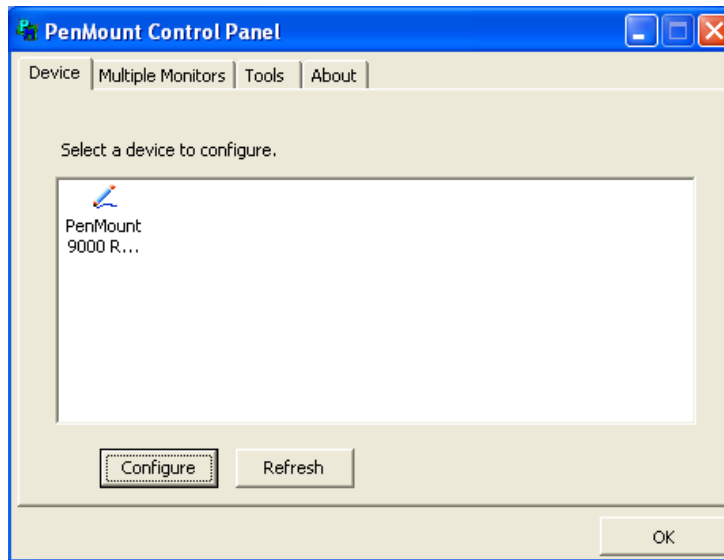

Figure 8-19: Configuration Screen
Step 5: The configuration screen in **Figure 8-19** appears.
Step 6: Double click the PenMount 9000 icon as shown in **Figure 8-19**.